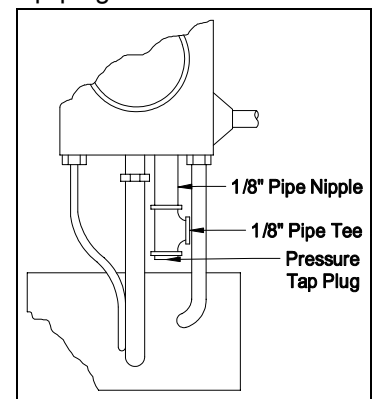

Figure 3
2. Replace the pressure tap plug with the 1/8" pipe nipple and pipe tee. Install pressure tap plug at the bottom of the pipe tee. (See Figure 3)